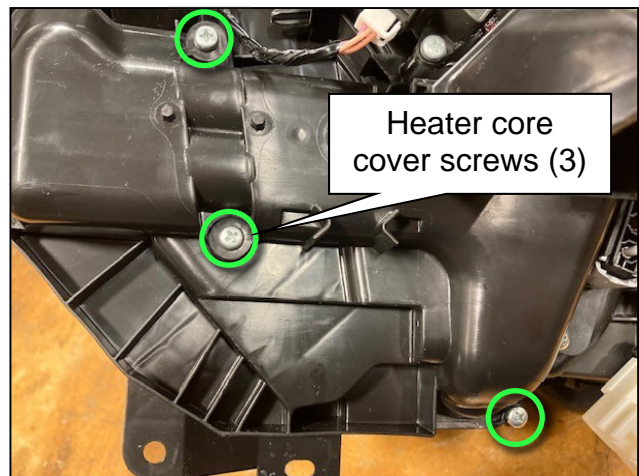

Figure 5
5. Remove the three (3) heater core cover screws and set the heater core cover aside (Figure 5).